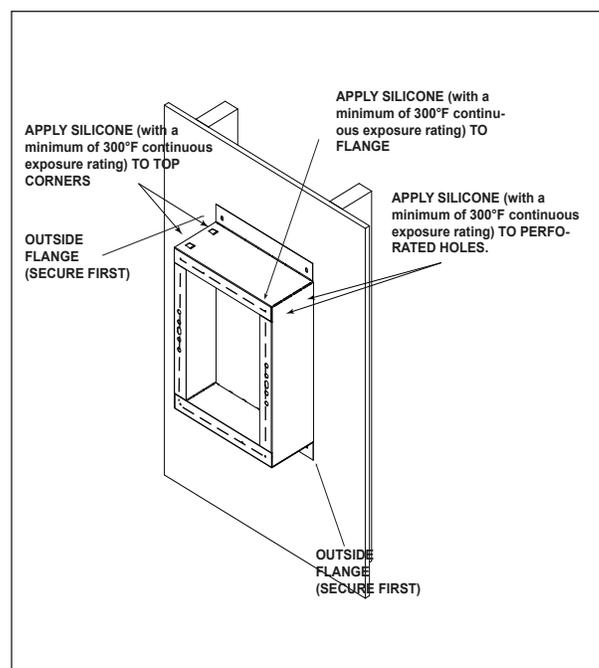

Figure 2.10 HEAT-OUT-BEK Attached to Wall
7. Place assembled box over the framed opening in the wall with outside flanges oriented vertically and held tight to the building exterior. See Figure 2.10.
8. Drive two of the supplied screws through opposite ends of the two outer flanges. This will secure the HEAT-OUT-BEK extension box to the building and allow for squaring of the HEAT-OUT-BEK. See Figure 2.10.
12. After HEAT-OUT-BEK has been installed and the finishing of the wall has taken place, apply a bead of silicone (with a minimum of 300° F continuous exposure rating) to the HEAT-OUT-BEK around the entire metal flange, as shown in Figure 2.10 with the dotted line.